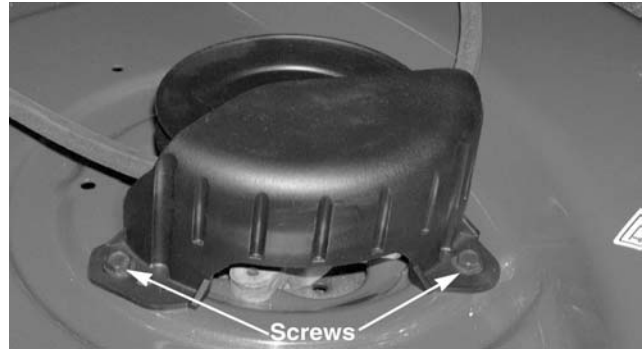

Figure 9-10.
4. Remove the self tapping screws securing the spindle belt covers. See Figure 9-10.